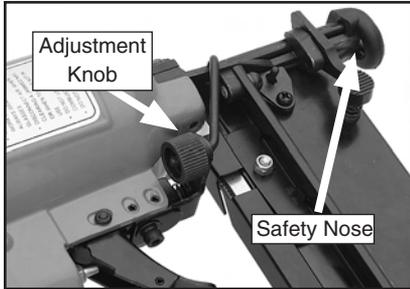

Figure 9. Finish nailer depth adjustment controls.
2. Rotate the depth adjustment knob (see **Figure 9**) clockwise to increase nail penetration, and counterclockwise to decrease nail penetration.